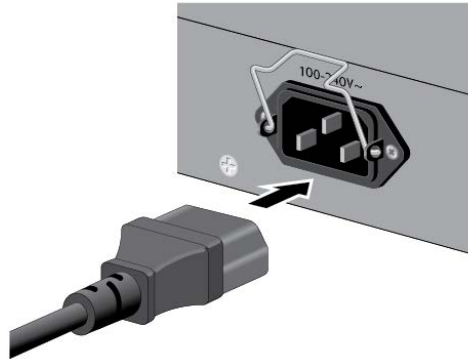

Figure 53. Connecting the AC Power Cords
2. Connect the AC power cord to the AC power connector on the rear panel. Refer to Figure 53 on page 109.